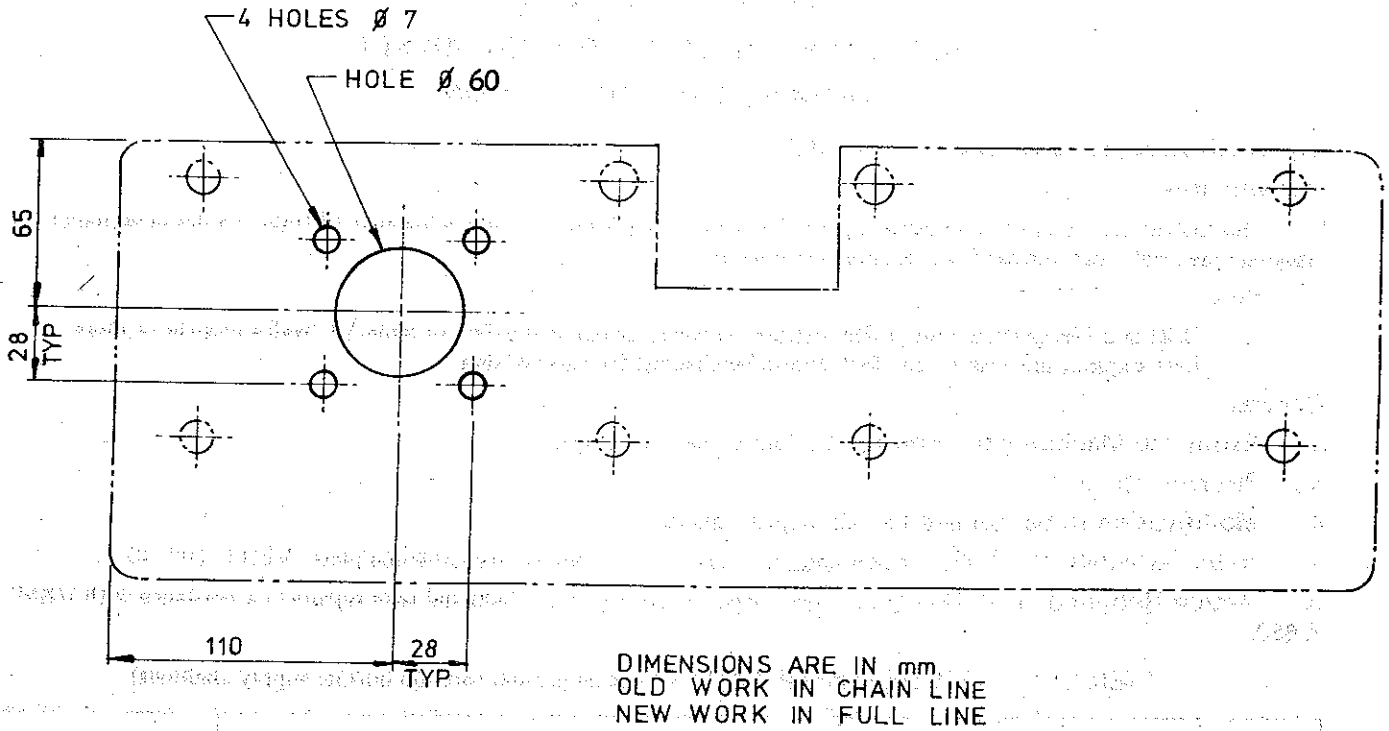

FIG 1 - LOCATION OF MOUNTING HOLES
- c. Mark out and drill/cut holes in rear chassis strengthening plate as shown in Fig 1. (If this plate is not fitted, see VEH G 307-2);